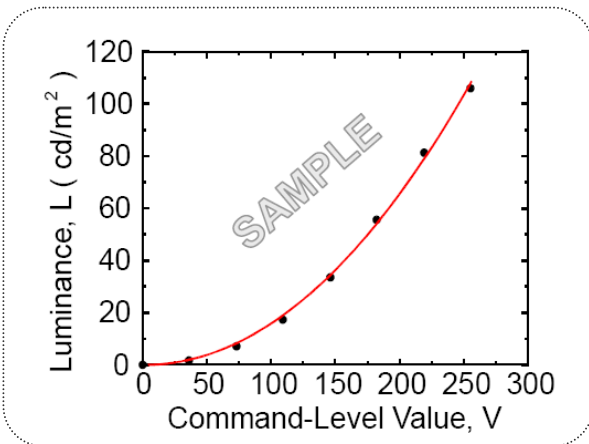
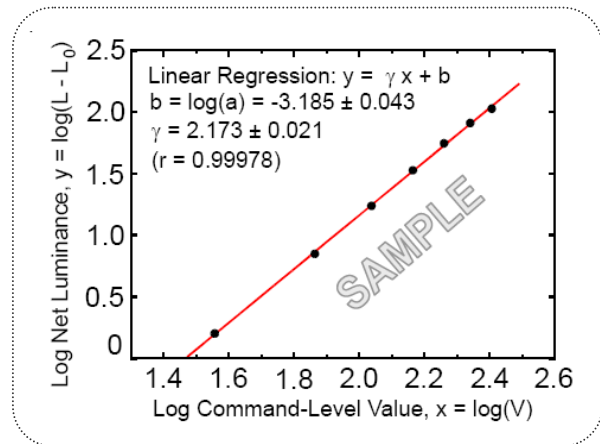

FIG. 8 Sample Luminance vs. gray scale (using a 256 bit gray scale)
FIG. 9 Sample Log-log plot of luminance vs. gray scale
8. Effective viewing angle is the angle at which the gamma shift of gray scale is lower than 0.3. For more information see FIG 8 and FIG 9.
The GAMMA we calculate from the log-log representation (FIG. 8)